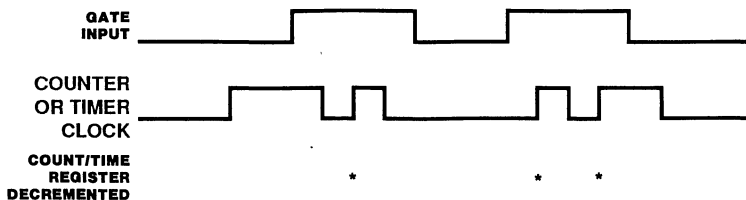

Figure 31. Gate Facility
**Gate Operation.** A counter/timer can be programmed to count or time only when a gating condition is met. While the counter/timer is enabled and the external gate capability is selected, an external input line is monitored; only while this line is High are the counting or timing operations performed. The software gate facility filters the state of the input line; while the software gate bit in the Command and Status register is cleared to 0, the gating condition is not met regardless of the signals on the gating line. The gate facility is illustrated in Figure 31.